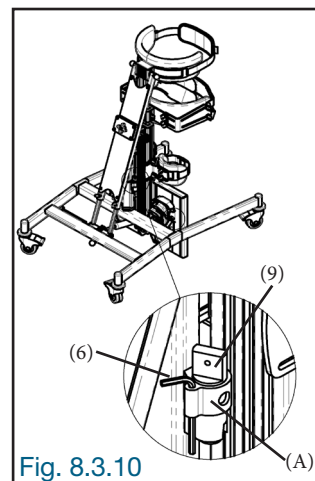

Fig. 8.3.10
8.3.10 Insert the Allen key (6) as well as the tightening key (9) into the tool holder (A) provided for this purpose (Fig. 8.3.10).